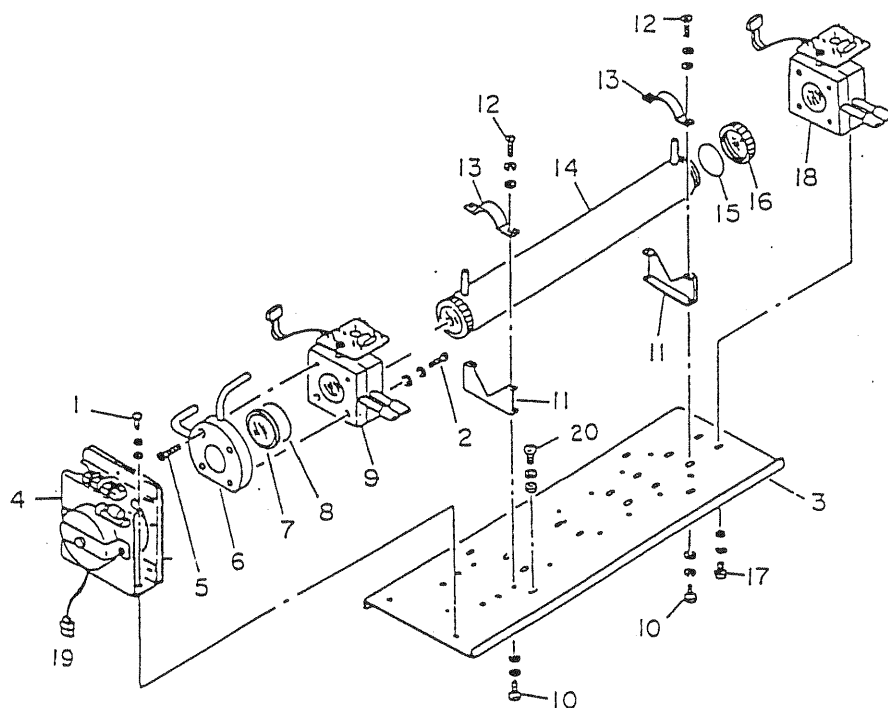

Fig.6.3 Exploded view of measuring unit
There are 2 types of measuring cell, one is a block cell(cell lengths:4mm, 8mm, 16mm & 32mm) and the other is a pipe cell(cell lengths:64mm, 125mm & 250mm). In case of a dual components analyzer, there is a combination cell type, which is composed of both types of cells in the optical system. For this type, disassemble pipe cell first then the block cell.(refer to Fig.6.3)
(3) How to disassemble combination cell: (Refer to Fig.6.3 next page)
- a. Proceed the same procedures described in a.~d. of (1) how to disassemble pipe cell.
- f. Remove both wiring to 2 pin terminals of the infrared source unit and 2 pin connectors(No.19 in Fig.6.3) of the chopper motor.
- g. Remove 4 screws(No.20 in Fig.6-3) for fixing the base plate(No.3 in Fig.6.3) and take out the measuring unit.
- 。 Window(No.7 in Fig.6-3) on one side of block cell is not fixed, therefore, care not to break it by falling down.